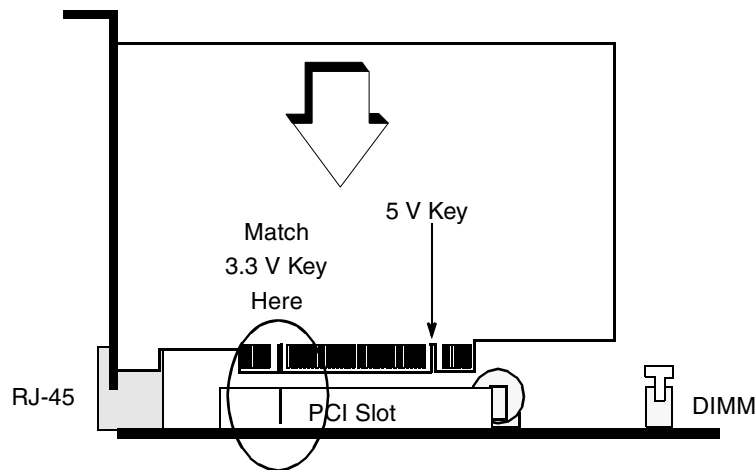

Figure 14. 3.3 V Key on a Typical 3.3 V PCI Card
3.3 V PCI cards can be identified by the key position on the PCI card, as shown in Figure 14.